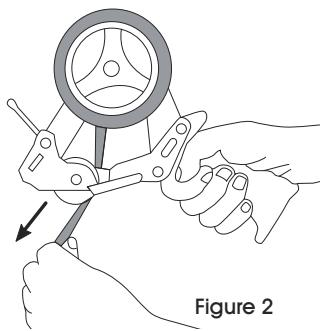

Figure 2
2. Unroll 5-6 inches of tape (sticky side down) and thread between smoothing roller and metal loading gate. (See Figure 2)